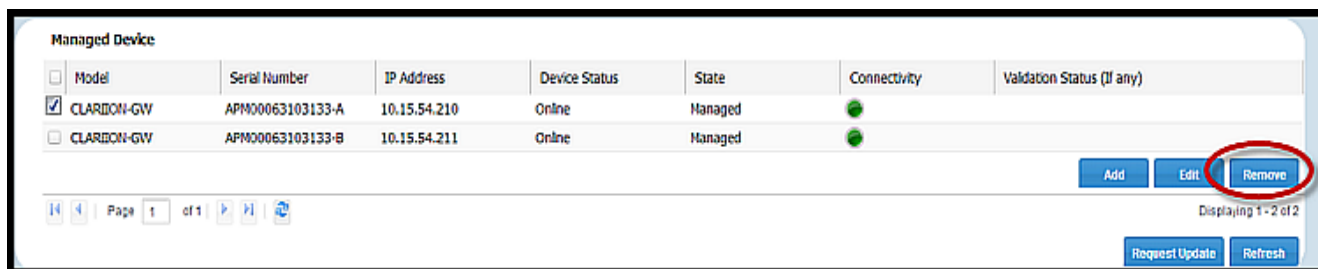

Figure 26 Removing a device
1. In the Manage Device page, select the device to be removed, and then click **Remove**, as shown in Figure 26 on page 33. A confirmation window appears.